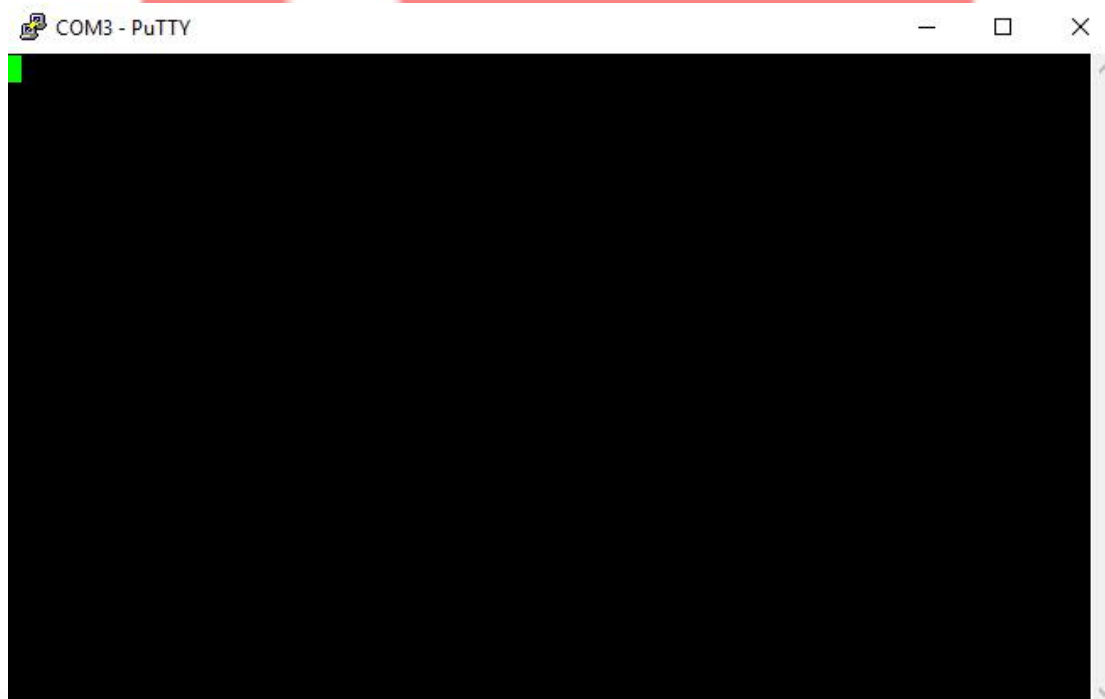

Figure 3: Serial Monitor
6. This should open a serial monitor as shown in figure 3.